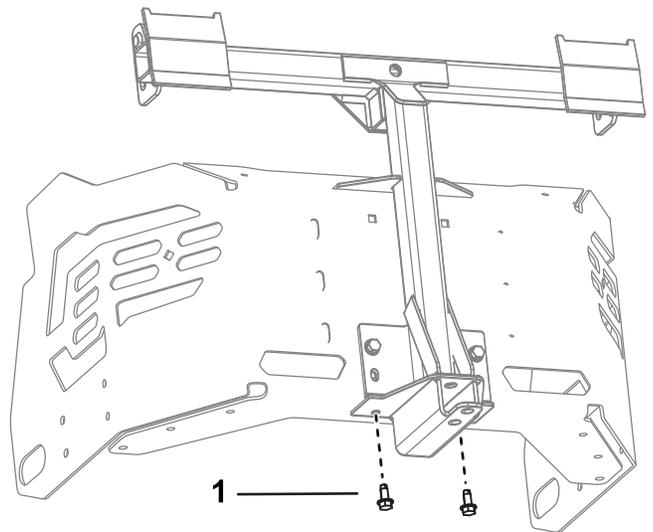

Figure 16
3. Remove the existing 2 self-tapping screws from the bottom of the machine frame (Figure 16).
5. Position the pivot frame upward, and secure the pivot frame to the bottom of the machine frame using 2 self-tapping screws (5/16 x 3/4 inch) as shown in Figure 16.